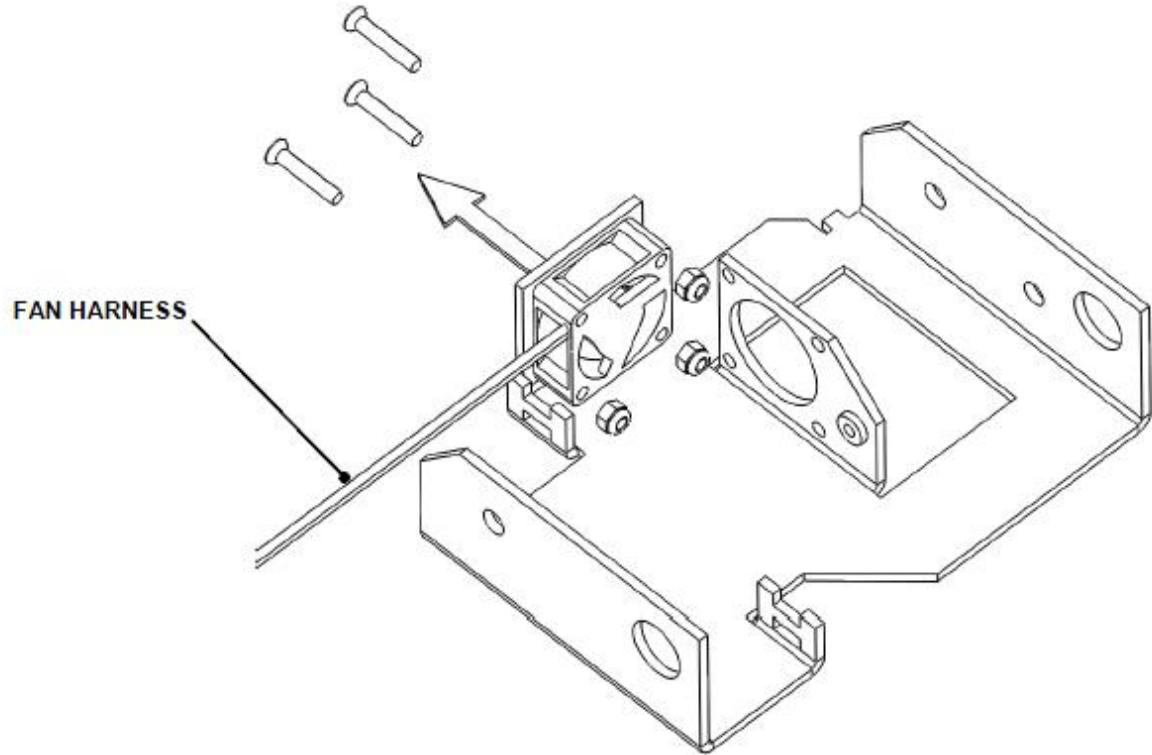

Figure J-5: Fan
The fan is located on the driver chassis (Figure J-5) using three M2.5x 16 Posi Flathead screws, three M2.5 Washers and three Nyloc Hex Nuts.
3. Secure a the new fan to the Driver Chassis (using three M2.5x16 Posi Head Flathead Screws (30100180), three M2.5 Washers and three M2.5 Nyloc Hex Nuts (Leave the hole nearest the harness empty, as shown in Figure J-5). Ensure the fan is oriented as shown and the air flow is in the same direction as that of the arrow.